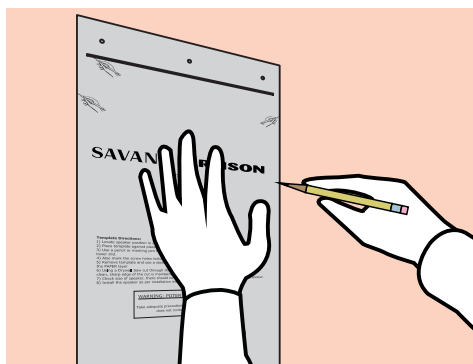

Figure 4.
2. Trace a thin line along the two longest sides of the template. The template incorporates a pencil illustration  where the lines need to be made. See Figure 4 below.